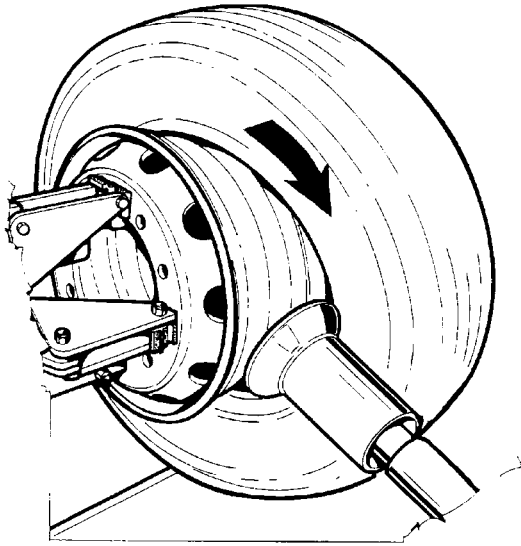

Fig.20
7. Continue rotating the chuck, moving tool holder carriage towards the outside until the beads are demounted from the rim (fig.20 and fig.21)